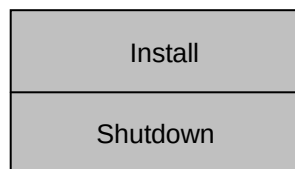

Fig. 2.2-4 System Software Registration Button
- (7) Upon completion of the system bootup, the button shown in Fig. 2.2-4 is displayed.